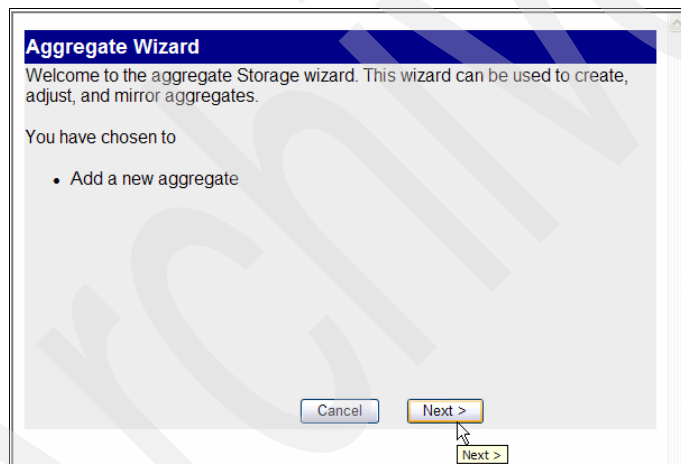

Figure 7-8 Aggregate Wizard: Add an Aggregate
2. A wizard is displayed, as shown in Figure 7-8 on page 207. Click **Next**.